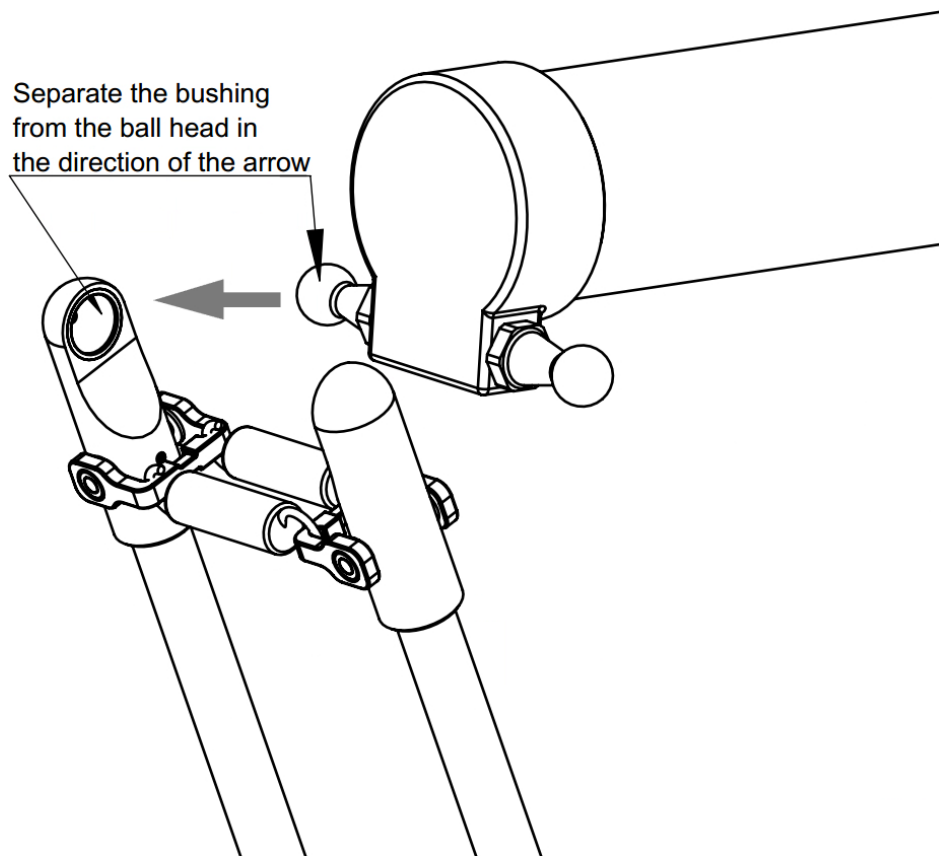

Figure 3-7 Removal at the end of master arm
Step 3 Then pull the spring where it is connected to the master arm, as shown in Figure 3-7, and place the removed slave arm on the cardboard. At this time, keep eyes on the moving platform to prevent it from suddenly falling.